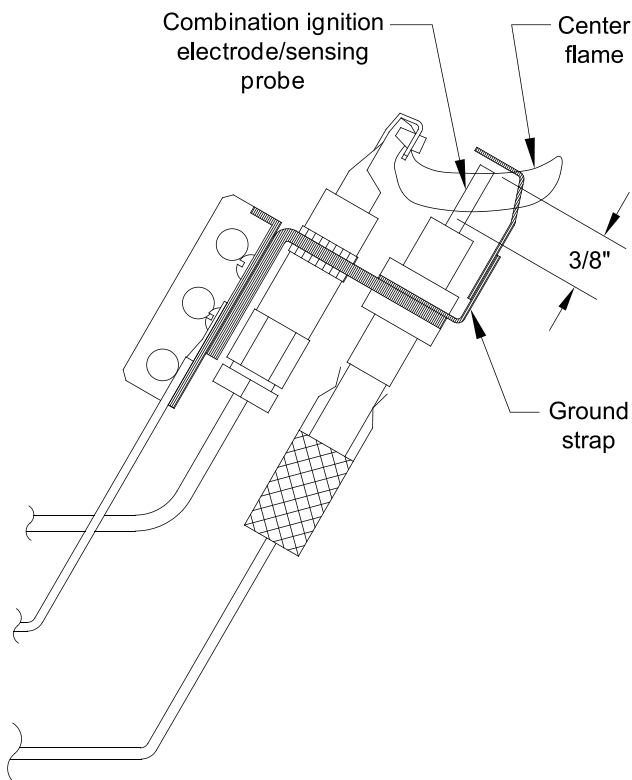

Figure 7-2: Honeywell Q3481B Pilot Flame
1. Check pilot flame. Refer to Figure 7-2 for pilot detail.